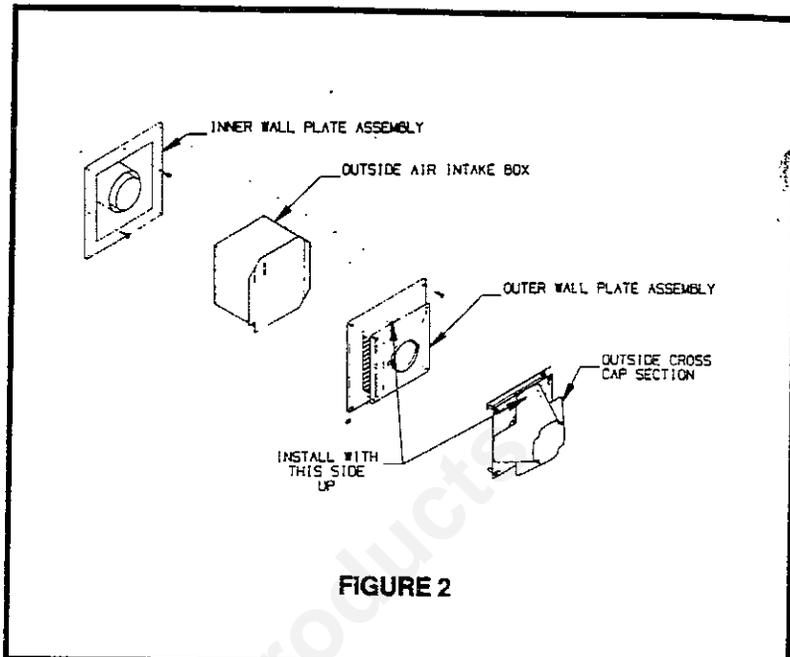

FIGURE 2
3. Installing Outside Vent (Refer to Figure 2)